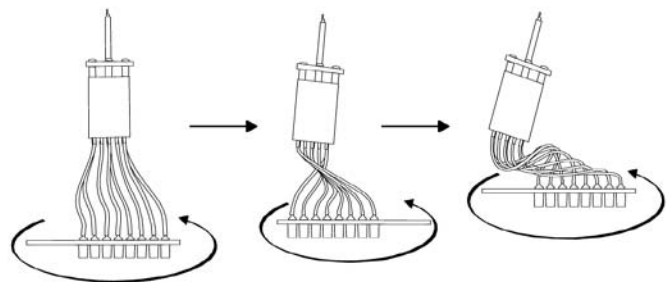

Figure F.2.3f: Rotating Manifold Assembly
4. After installing the piston/cylinder assembly, install the manifold assembly into the main housing. To keep the tubing free from ejector contact, rotate the manifold plate and tubing one complete turn counterclockwise (see Figure F.2.3f). Insert the manifold assembly into the main housing support ribs.